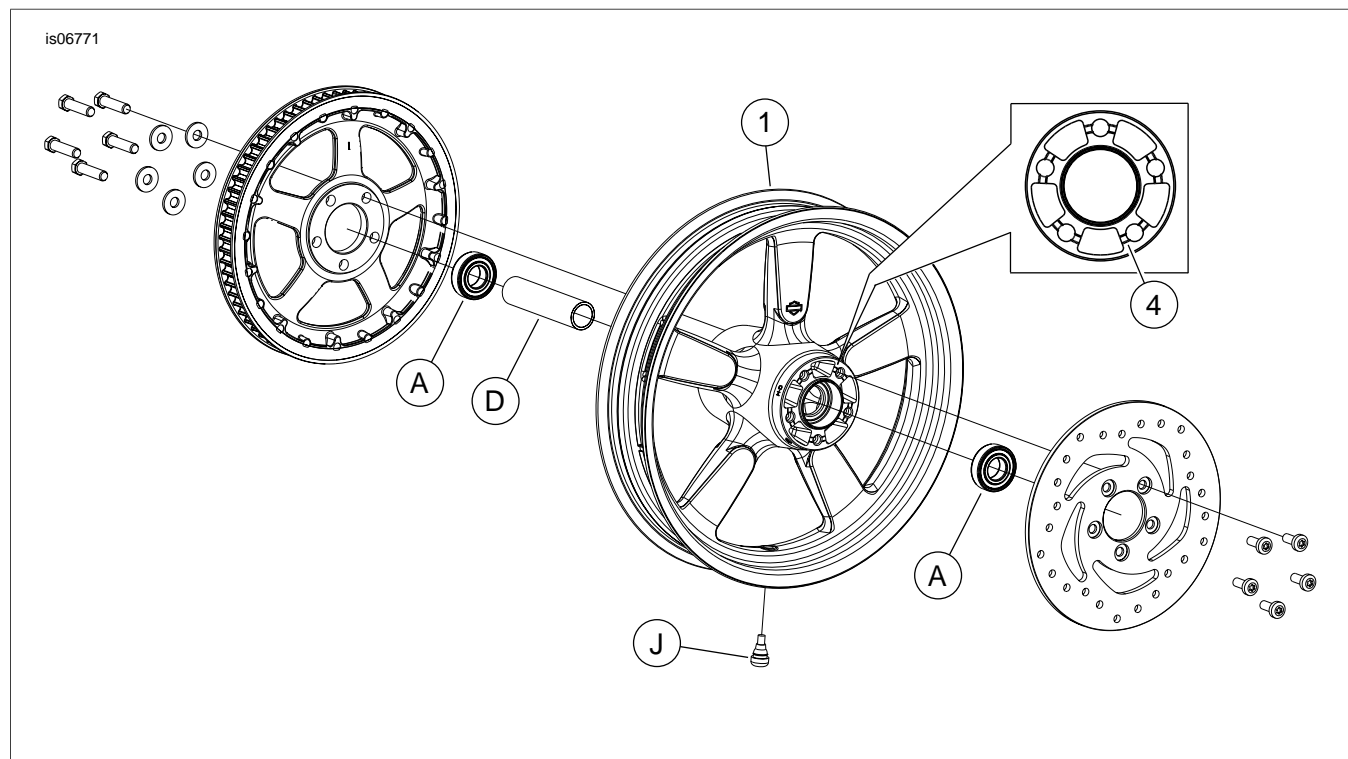

Figure 1. Service Parts: Rear Fat-X Wheel
See Figure 1 and Service Parts Tables.
2. See Figure 1. Install valve stem assembly (J) on wheel. Refer to TIRES in service manual.